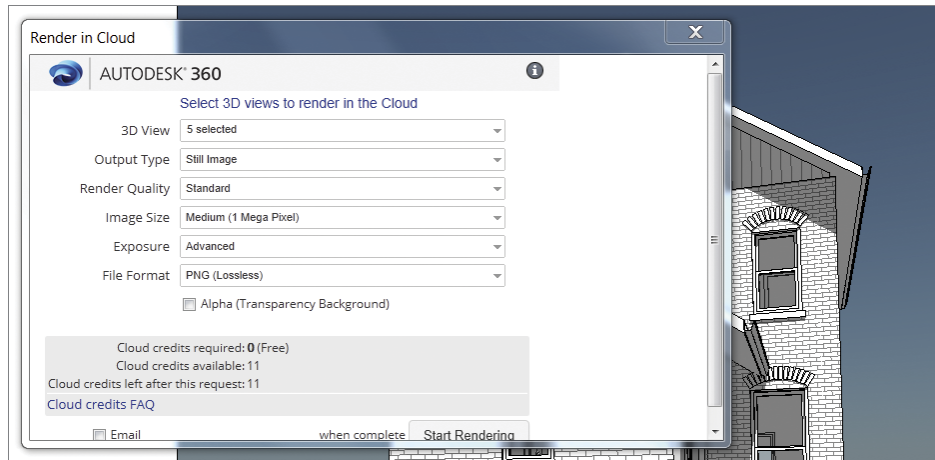

FIGURE 9.15 Render In Cloud options
3. There are other options below, but as long as you set Render Quality to Standard and Image Size to Medium (1 Mega Pixel), then the renderings do not cost any cloud credits; they are free! See Figure 9.15.